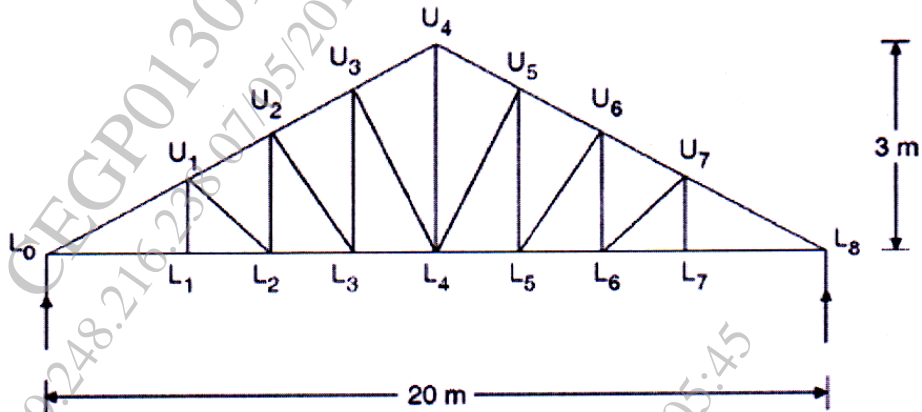

Fig. 10
**Q10)** A truss shown in Fig.10 is used for an industrial building situated at Pune covered with AC sheets. Calculate the panel point dead, live, and wind load. Design the members  $L_7 L_8$ ,  $U_7 L_8$  and  $L_7 U_7$ . Assuming  $(C_{pe} - C_{pi}) = \pm 0.8$ ,  $k_1 = 1$ ,  $k_2 = 0.98$ ,  $k_3 = 1$  and  $f_y = 250$  MPa. Draw the design sketches. [17]